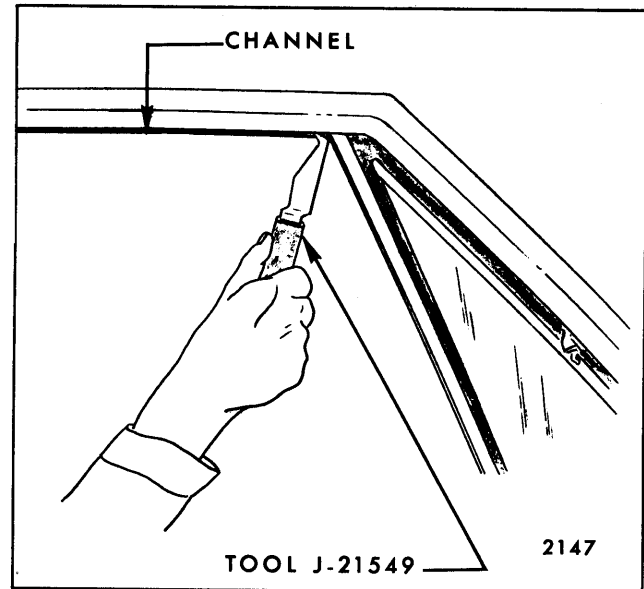

Fig. 6-75—Door Window Glass Run Channel Removal
4. From outside door, insert a sharp pointed right angle tool (reveal molding clip disengaging tool J-21549 or equivalent) between outer edge of glass run channel and door upper frame as shown in Figure 6-75.